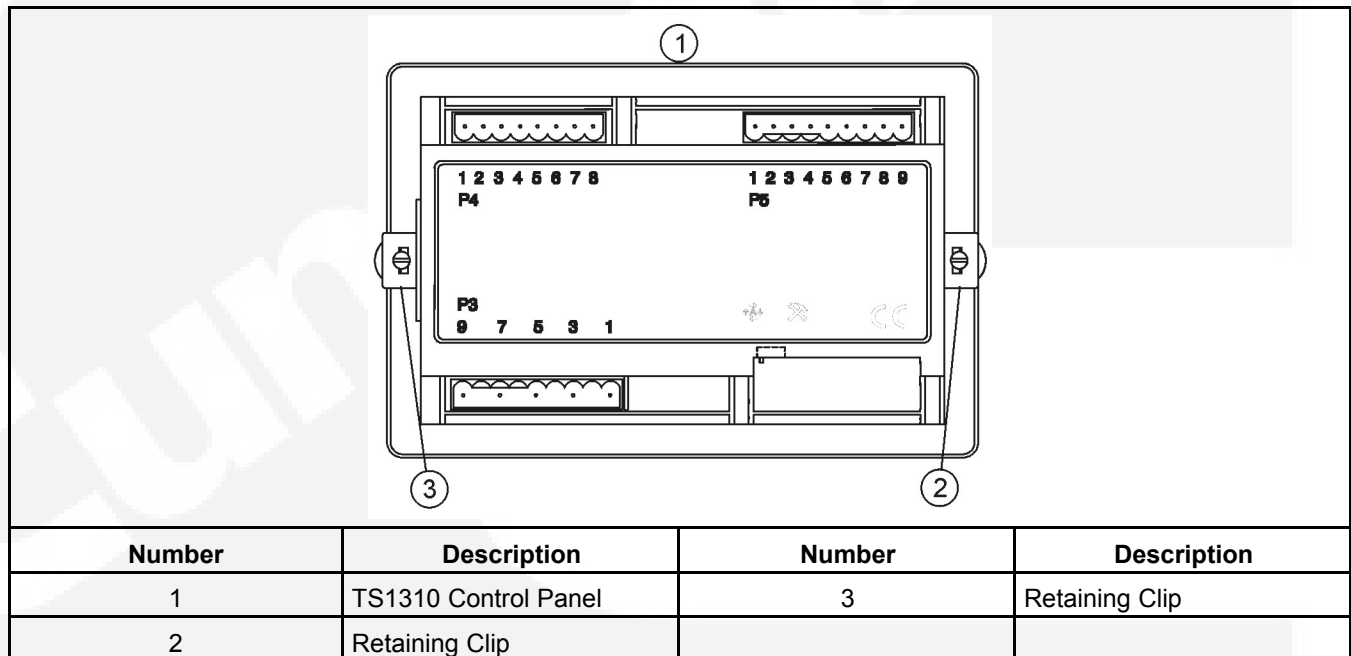

FIGURE 35. CONTROL CONNECTORS
3. Unplug the P3, P4, and P5 connectors from the back of the control, see Figure 35.
6. Use the two retaining clips to secure the control to the mounting bracket. The clips are installed on the sides of the control, see Figure 35.
7. Reconnect the P3, P4, and P5 connectors to the control. Make sure the P3 and P5 connectors are in the correct slots, see Figure 35.